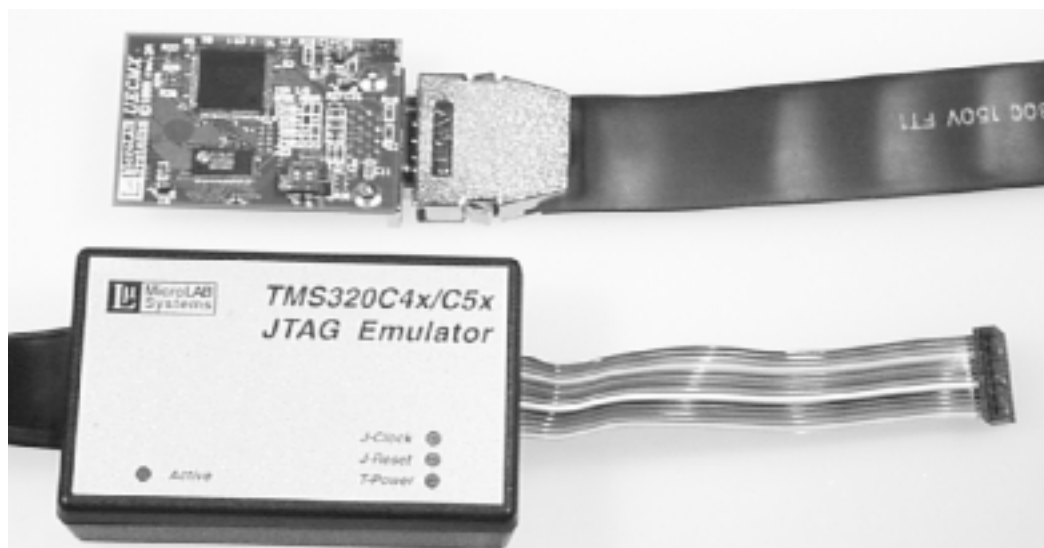

Fig.1-1. *UECMX* module with optional JTAG pod.
*UECMX* universal emulation control daughter-card module (fig.1-1) is designed for emulation control of TI TMS320 DSP. All TI TMS320 DSP with MPSD and JTAG scan-path emulation interfaces are supported.